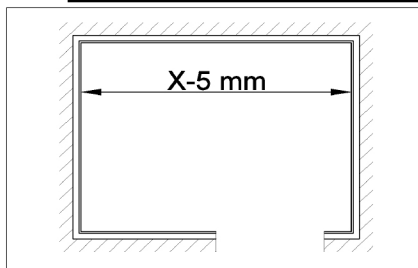

Figure 1
1. Measure the exact length of the sauna bench. Leave 4–5 mm of empty space between the walls and sauna bench module. (Figure 1)